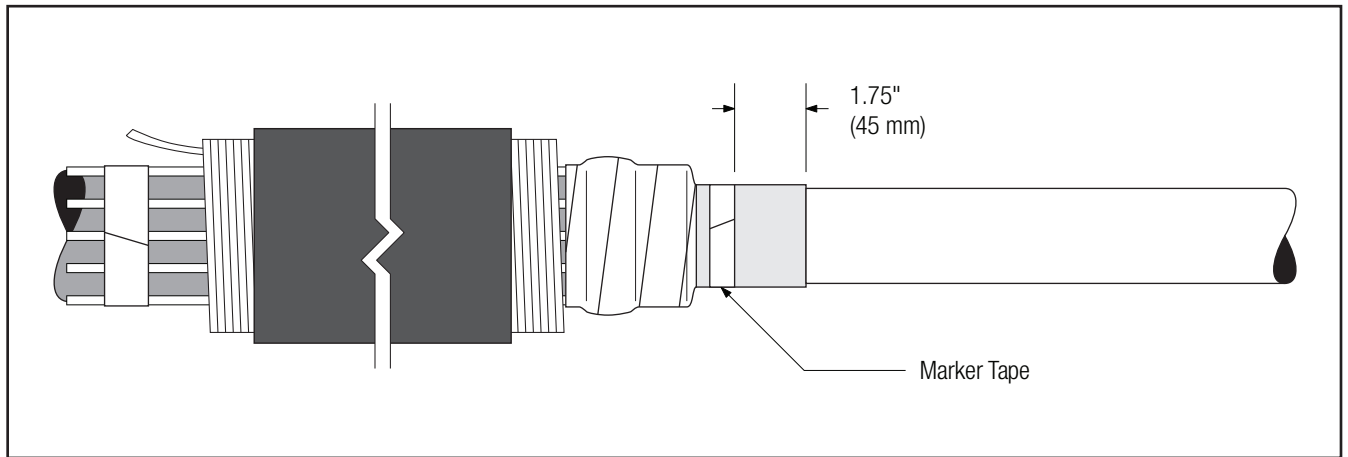

Figure 6
3.2 Place a marker tape on the cable semi-con located 1.75" (45 mm) from the end of the semi-con. (Figure 6)